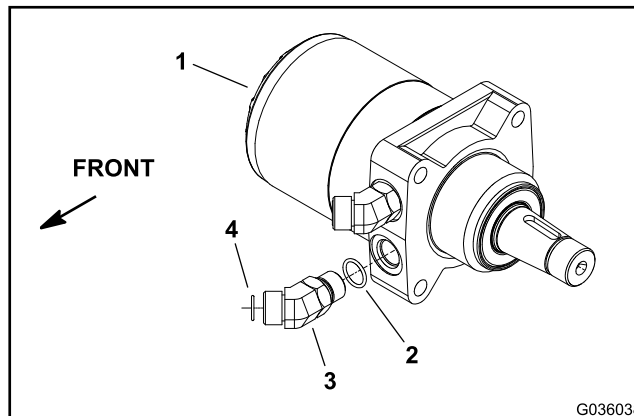

Figure 65
1. If the hydraulic fittings were removed from the wheel motor, lubricate and install new O-rings to the fittings. Install the fittings into the wheel motor ports; refer to Installing the Hydraulic Fittings \(SAE Straight Thread O-Ring Fitting into the Component Port\) (page 4–9). Ensure that the fittings are orientated correctly (Figure 65).